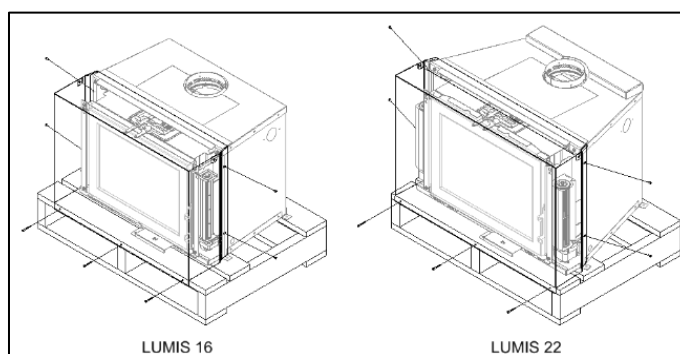

Figure 3-3: LUMIS Shipping Front Cover Removal
- a) Unfasten and remove the front shipping cover of the unit (See Figure 3-3).